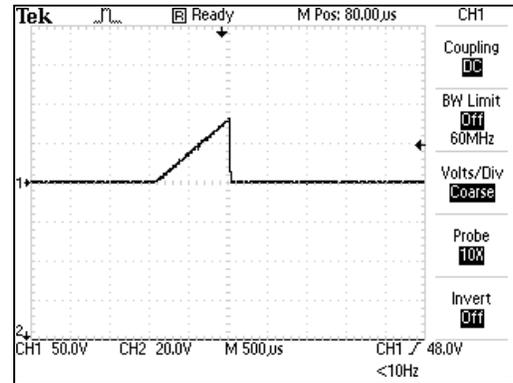

Figure 5.13
L. MONOPHASIC TRIANGULAR PULSED (Figure 5.13)